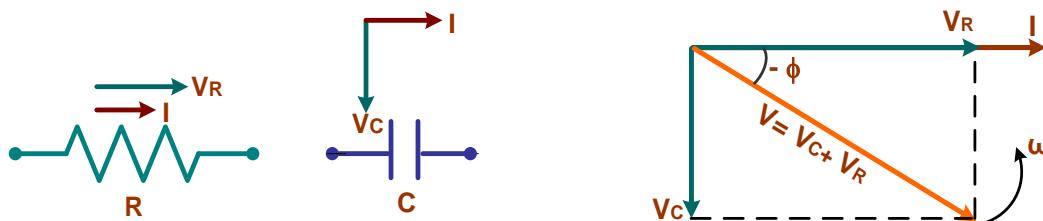

Figure 2.30 Phasor Diagram of Series R-C Circuit
- So, to draw the vector diagram, first  $I$  taken as the reference. This is shown in the Fig. 2.30. Next  $V_R$  drawn in phase with  $I$ . Next  $V_C$  is drawn  $90^\circ$  lagging the  $I$ . The supply voltage  $V$  is then phasor Addition of  $V_R$  and  $V_C$ .